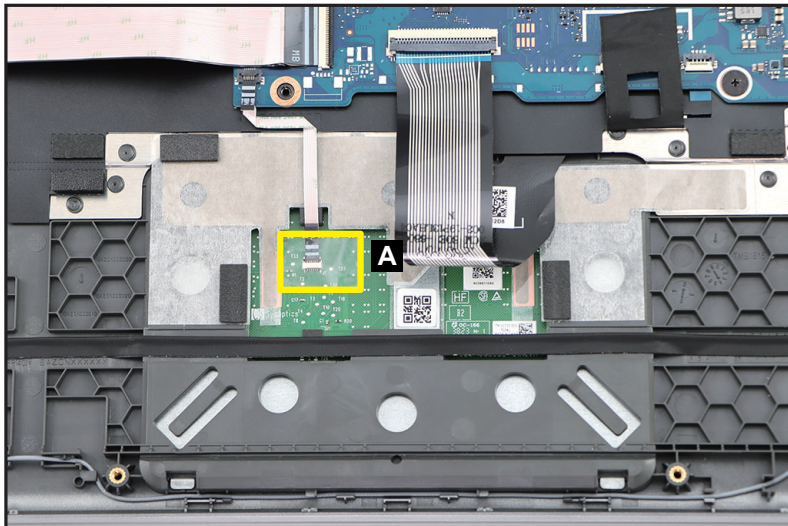

Figure 1-18. Touchpad Module Removal
1. Detach the mylar tape (A) from the touchpad module FFC connector (Figure 1-18).